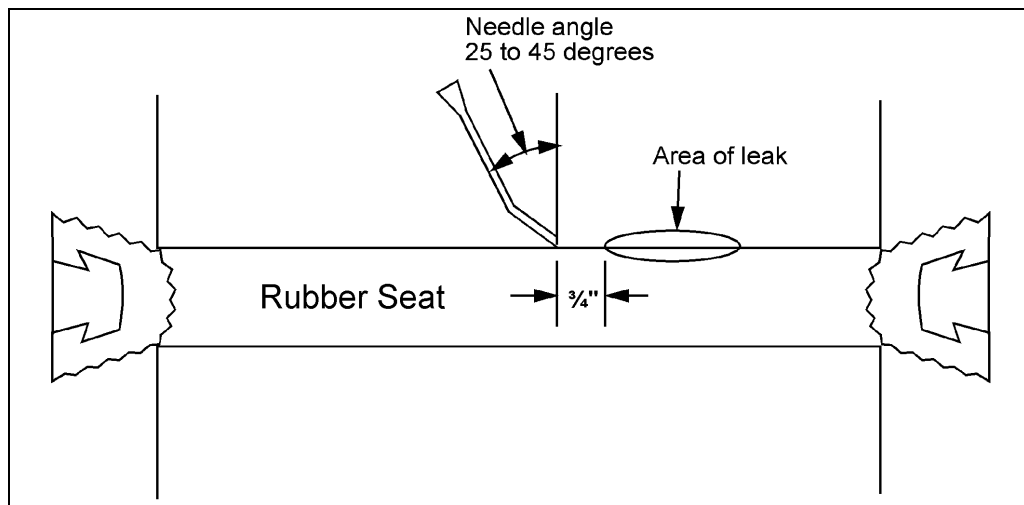

Figure 1 - Selecting Injection Site
2. Select an injection site that is about $\frac{3}{4}$ " to one side of leak. See Figure 1.